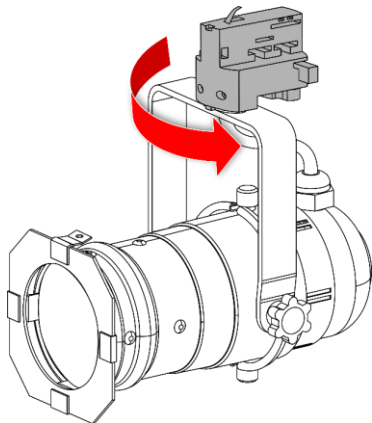
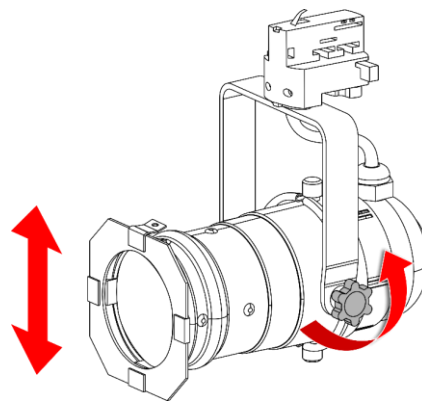

Fig. 13
Fig. 14
- 01) Pivot the device around the **track adapter (01)** to adjust the direction of the beam (see Fig. 13).
- 02) Turn the 2 **adjustment screws (07)** counterclockwise to release them.
- 03) Tilt the device at the desired angle (see Fig. 14).
- 04) Turn the 2 **adjustment screws (07)** clockwise to tighten them. Make sure that the device cannot move freely after the 2 **adjustment screws (07)** are tightened.